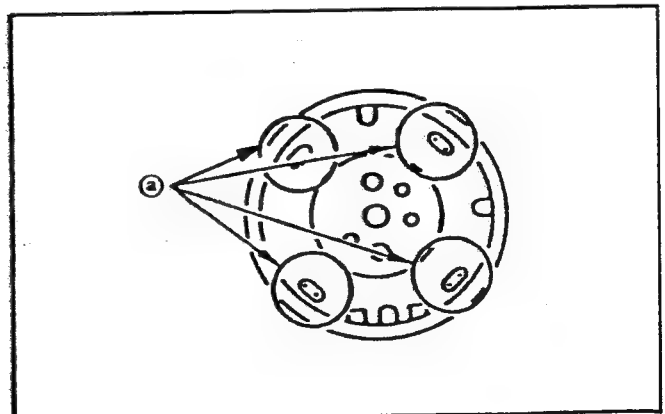

Fig. II-108
\* Parts ① in the Fig. II-108 are plug-in type. (Not soldered as in the conventional models)